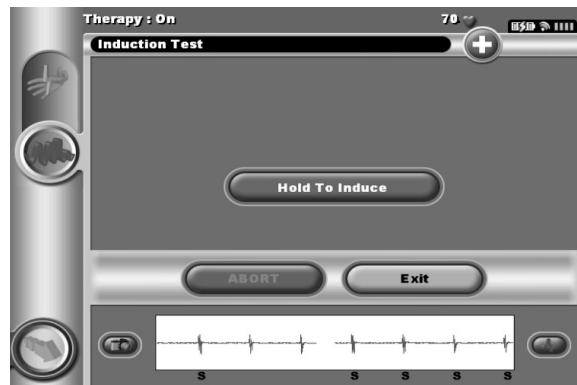

Figure 36: Induction Test screen
7. Select and hold the Hold To Induce button for the desired duration (Figure 36).